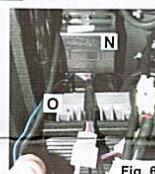

Fig. 6
12. Locate the remote receiver (Fig. 6, N) and the inverter (Fig. 6, O).